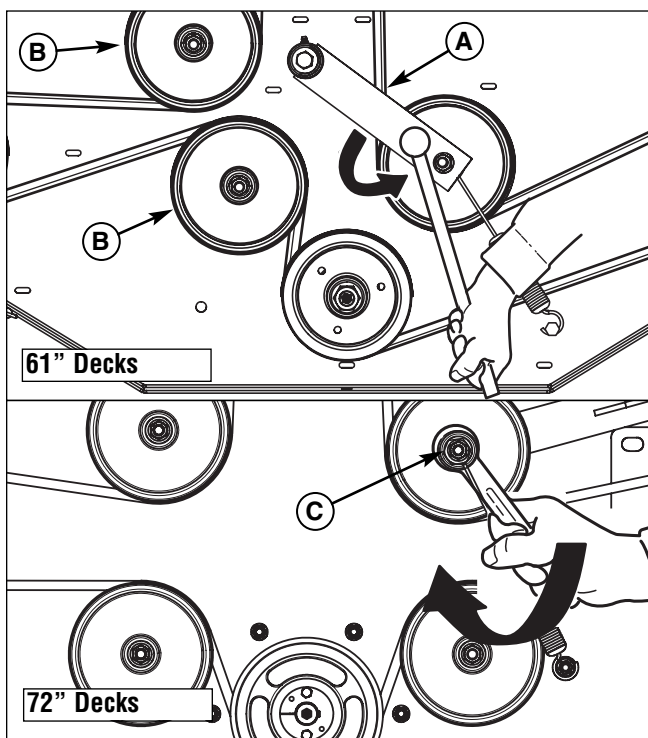

Figure 42. Mower PTO Belt
3. **For 61" Decks:** Using a 1/2" breaker bar, place the square end in the square hole located in the end of the idler arm (A, Figures 42). Carefully rotate the breaker bar COUNTER-CLOCKWISE, which will relieve the tension on the belt exerted from the idler arm.
**For 72" Decks:** Using the 3/4" combination wrench, place the box end on the nut (A, Figure 42) that secures the idler pulley located at the end of the idler arm. Carefully rotate the wrench CLOCKWISE, which will relieve the tension on the belt exerted from the idler arm.
6. **For 61" Decks:** Install the drive belt on the PTO pulley, the spindle pulleys and all idler pulleys except the stationary pulley (B, Figure 42). Carefully rotate the breaker bar COUNTER-CLOCKWISE and install the belt on the stationary idler pulley (B). Carefully release the tension on the breaker bar.
- For 72" Decks:** Install the drive belt on the PTO pulley, the spindle pulleys and all idler pulleys except the stationary pulley (B, Figure 42). Carefully rotate the combination wrench CLOCKWISE and install the belt on the stationary idler pulley (B). Carefully release the tension on the combination wrench.